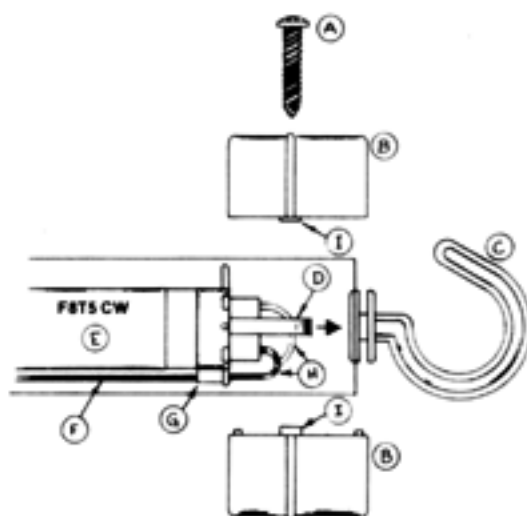

FIGURE 2
## RELAMPING INSTRUCTION (Fig. 2)
2. Remove Phillips head screw (A), from hook end of light, separate end cap halves (B), and hook (C), as shown in Fig. 2. Grasp white nylon socket (D) and pull outwards. Remove lamp and replace (E), with Fluorescent lamp for your model (see below). Pull slack wire (F), that may be along the lamp, through cord guide (G), into end cap. The side hanging hooks may now be slid over the outer shield if you desire.
- \*\* Warning:** When relamping, white wire (H), must be positioned free of connecting posts (I), during reassembly, to avoid crimping wire.